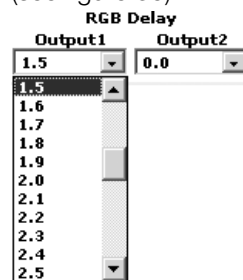

Figure 39. RGB Delay Scroll Box
1. Click in the RGB Delay field for the desired output. A drop-down scroll box appears (see figure 39).